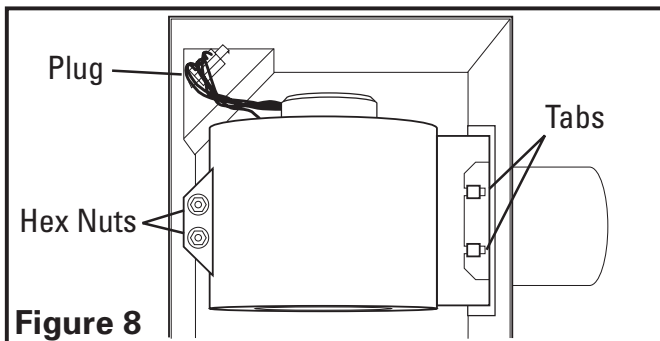
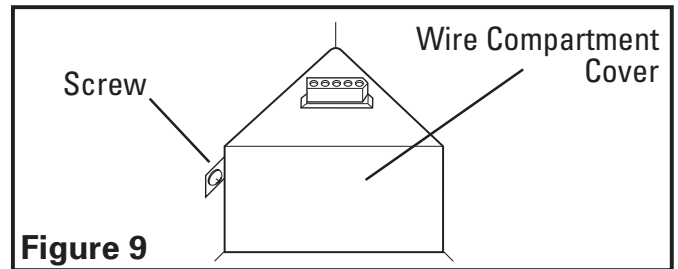

Figure 8
Figure 9
- 1b. **Internal Wire Compartment:** Using a 7/16" socket, remove the two hex nuts holding the blower assembly in place. Lift up on the assembly and slide it out of the tabs on the housing (Figure 8). Remove the wire compartment cover screw and place the cover in a secure place (Figure 9).